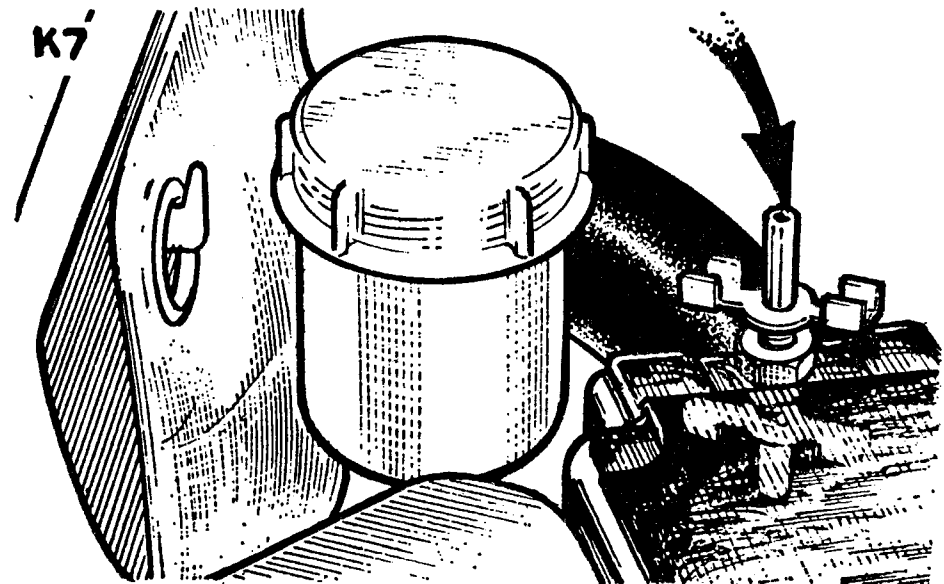

Fig. 14. Radiator vent tap
2. Remove vent plug, or open tap, on top of radiator (Fig. 14).